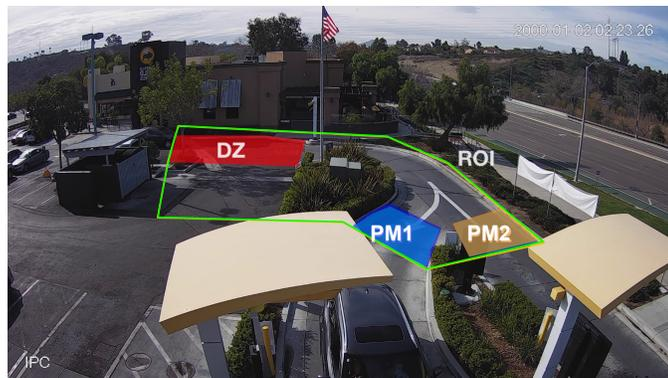

Fig. 6.1
- **Region of Interest (ROI):** This is the selected area within the camera's field of view that the system is concerned about. This region defines the overall region of interest which includes the Danger and Pre-Menu Zone(s) and/or Mobile/Pull-forward Zone(s). Fig. 6.1 defines the Region of Interest for a Y-Lane configuration. The green boundary line indicates this region.
- **Danger Zone (DZ):** This is an area of the drive-thru where cars get in line to join the queue for the drive-thru, but still have the ability to drive off without placing an order. Vehicles will sometimes do this if the wait time is too long or they simply decide they don't want to order anything. In Fig. 6.1, the red area (DZ) defines the Danger Zone.
- **Pre-Menu Zone(s) (PM):** This is an area approaching the menu board where vehicles are captive or bound in by the lane. Vehicles at this point have already passed through the Danger Zone and cannot easily drive off. In Fig. 6.1, the blue (PM1) and orange (PM2) areas define the Pre-Menu Zones.